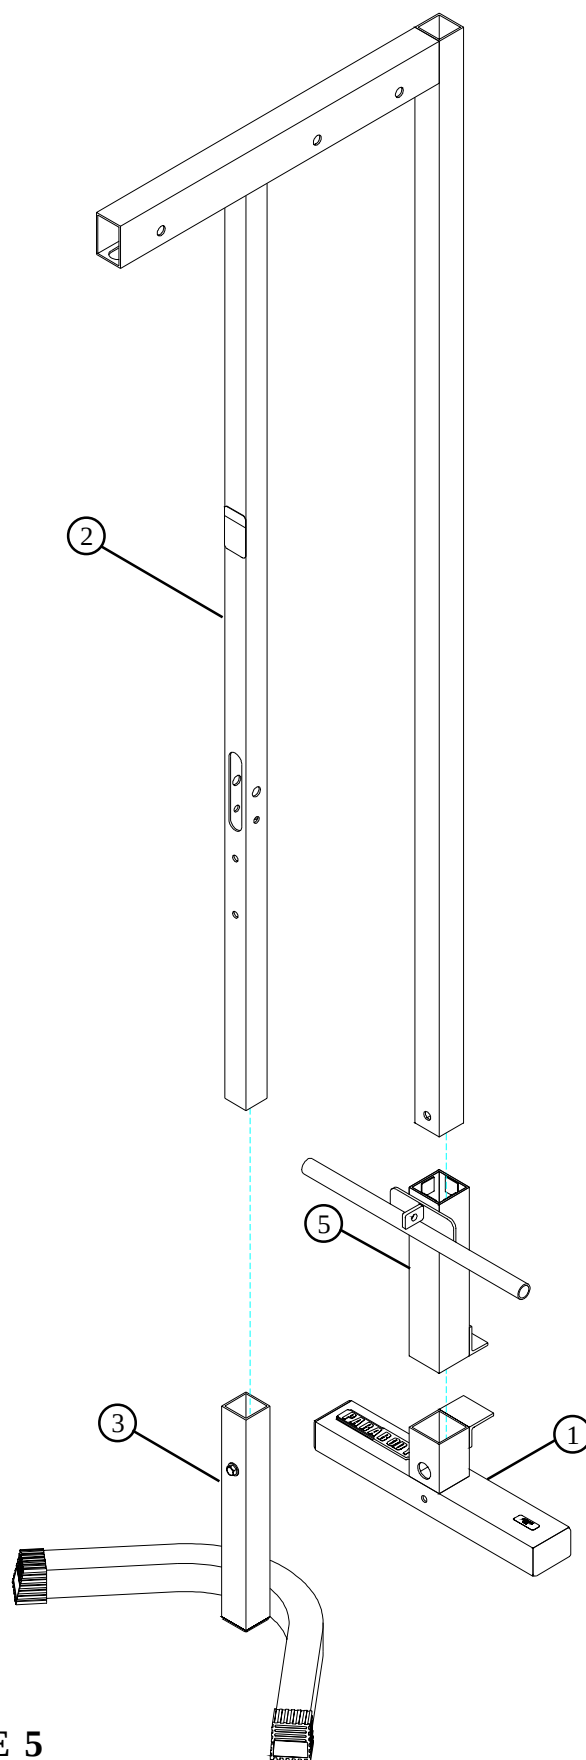

FIGURE 5
- Assemble the STAND (3) to the UPRIGHT (2) as shown in FIGURE 5.
- Slide the CARRIAGE (5) over the UPRIGHT (2) as shown in FIGURE 5.
- Assemble the BASE (1) to the UPRIGHT (2) as shown in FIGURE 5.